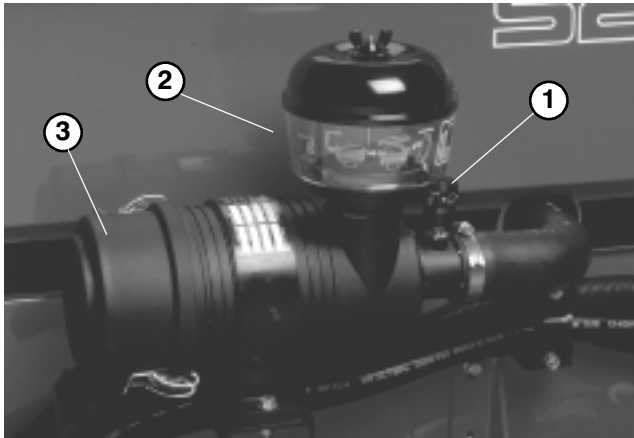

Figure 46
2. Service the air cleaner filters when ever air cleaner indicator (Fig. 46) shows red or every 400 hours (more frequently in extreme dusty or dirty conditions). Do not over service air filter.
SERVICING PRECLEANER BOWL (Fig. 46)
8. Reset indicator (Fig. 46) if showing red.